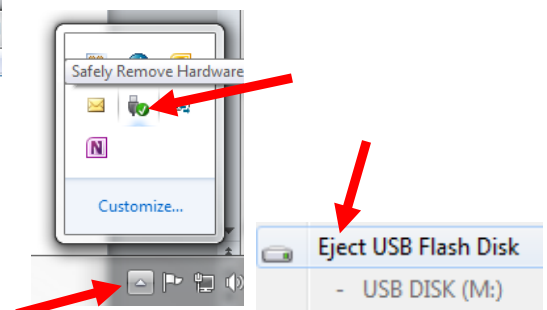

Figure 3
5. Click on Eject USB Flash Disk (see Figure 3).